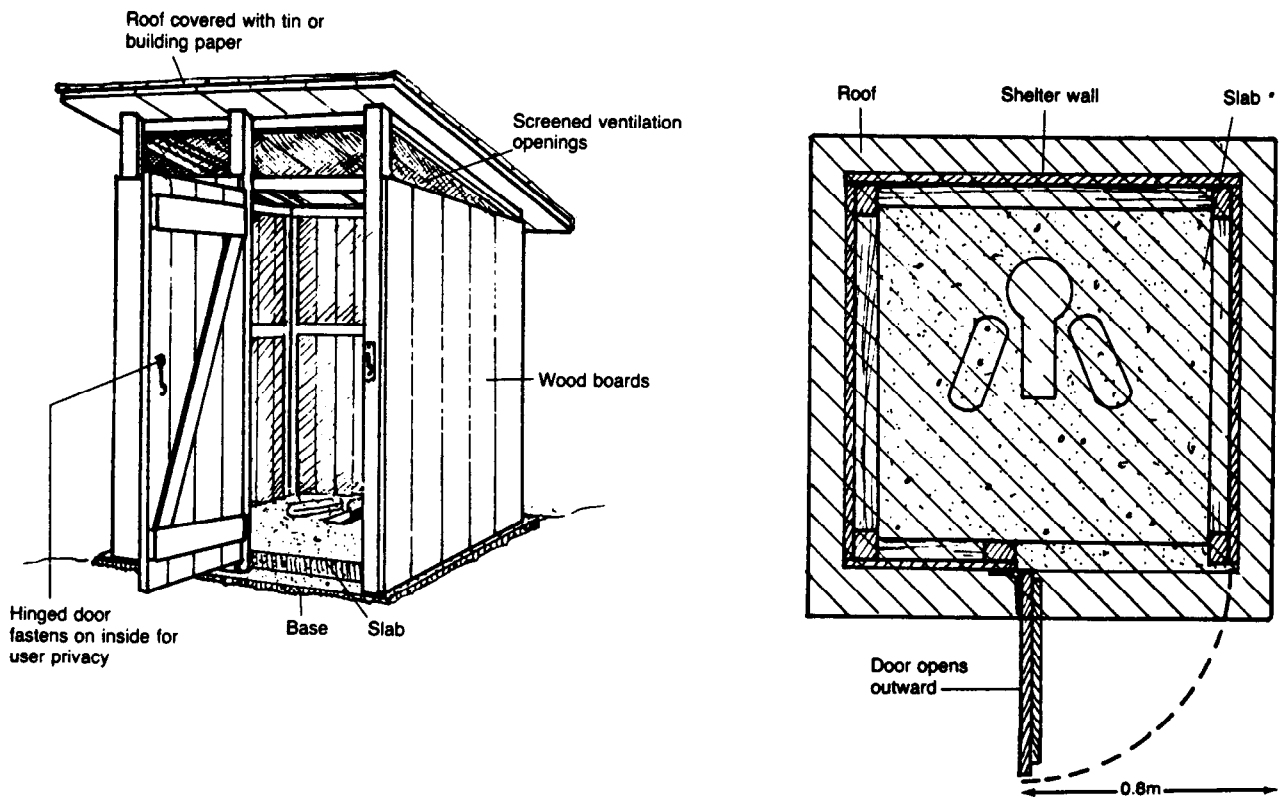

Figure 3. Fly-Proof with Screening and Door
9. Build a door, if there is one, with wood boards as shown in Figures 3 and 5. Attach the hinges, fasten the door to the door frame, and put on a latch as described in the section on building special features.